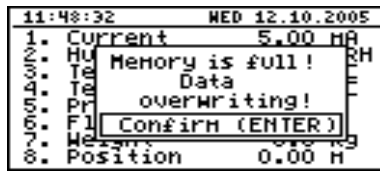

Fig. 7.16. Warning in “cyclic” recording mode
- “**cyclic**” - after filling all the available memory with recorded measurement results, the measurement results recorded next will be written from the starting address in the memory, overwriting previously recorded data. During the first overwriting operation a warning message (Fig. 7.16) will be displayed; this message must be confirmed with the [ENTER] key. This warning shall be repeated when the unit is switched on. Instead of “Time left” parameter in the “Device information” menu the display will show the “Data overwriting” message.